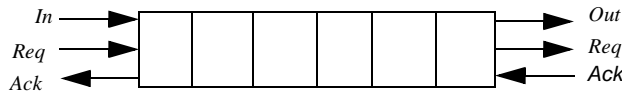

Figure 0.11 Overall structure of FIFO.
9. Design a self-timed FIFO. It should be six stages deep and have a two phase handshaking with the outside world. The black-box view of the FIFO is given in Figure 0.11.